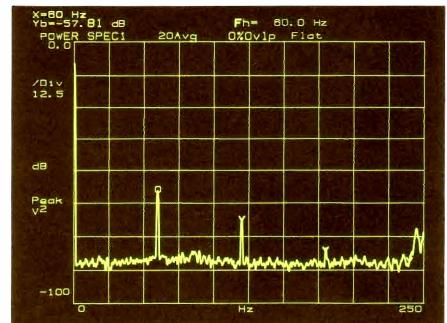

Figure 5-8
4. Start Press the yellow **START** key. The demodulation results are displayed as a baseband spectrum as shown in Figure 5-8. Notice that the frequency span of the demodulated spectrum is one-half that of the initial zoom span (this is always the case in demodulation).